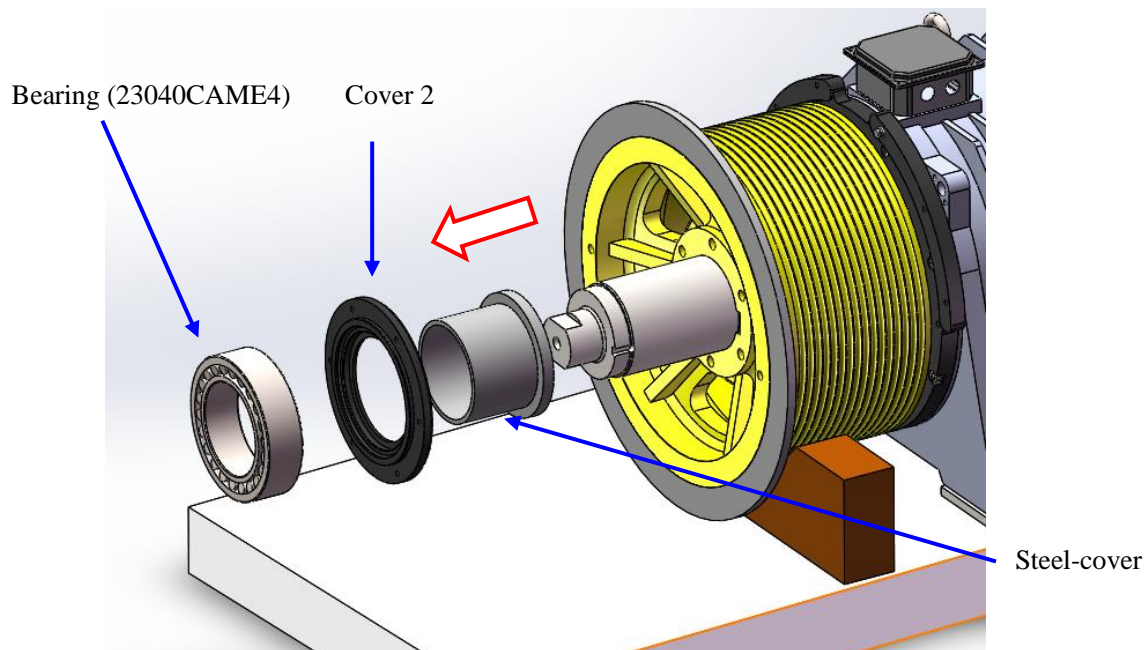

Figure 82: Bearing, Cover 2 and Steel cover removal
12. Take off the bearing (23040CAME4) See Figure 82.